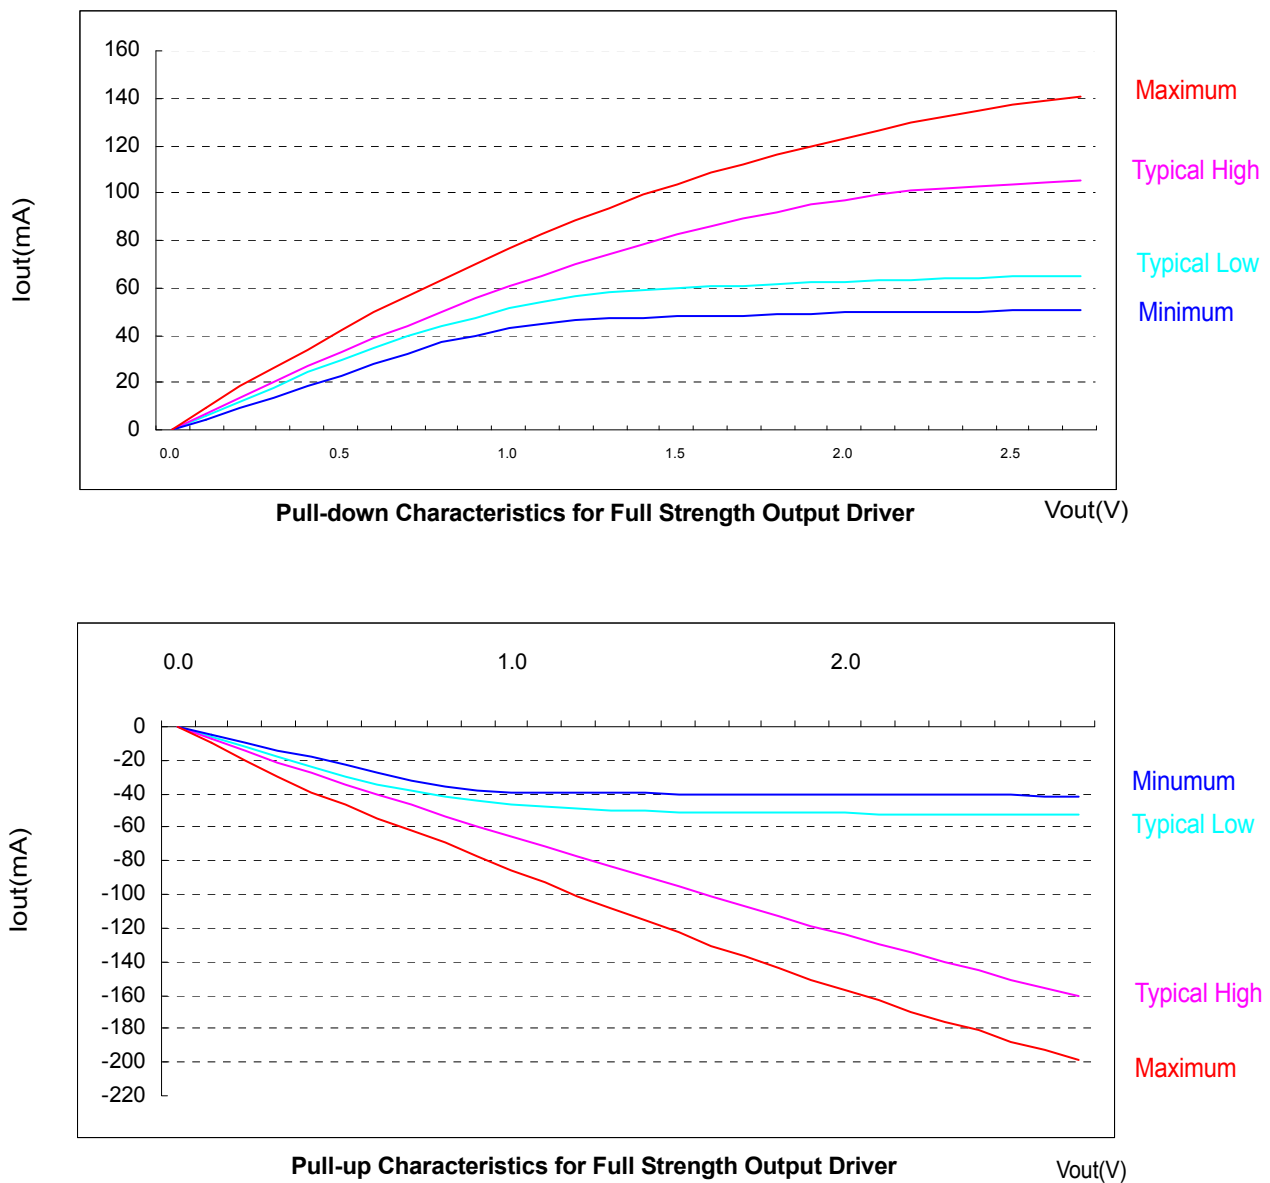

Figure 4. I/V characteristics for input/output buffers : Pull-down(above) and Pull-up(below)
Figures 4, 5 and 6 show the driver characteristics graphically, and tables 8, 9 and 10 show the same data in tabular format suitable for input into simulation tools. The driver characteristics evaluation conditions are:
1. The full variation in driver current from minimum to maximum process, temperature and voltage will lie within the outer bounding lines the of the V-I curve of Figures 4, 5 and 6.
2. It is recommended that the "typical" IBIS V-I curve lie within the inner bounding lines of the V-I curves of Figures 4, 5 and 6.